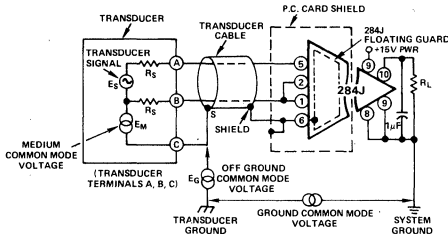

Figure 11. Transducer-Amplifier Interconnection
- Drive the transducer cable shield, S, with the common mode signal source, E_C , to reduce the effective cable capacitance as shown in Figure 11 below. This is accomplished by connecting the shield point S, as close as possible to the transducer signal low point B. This may not always be possible. In some cases the shield may be separated from signal low by a portion of the medium being measured (e.g. pressure transducer). This will cause a common mode signal, E_M , to be generated by the medium between the shield and the signal low. The 78dB CMR capability of model 284J between the input terminals (HI IN and LO IN) and GUARD, will work to suppress the common mode signal, E_M .